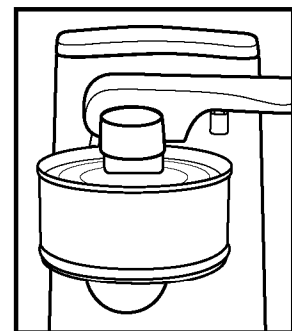

Figure 3
- 4 Push can opener lever down firmly and hold until the can lid is automatically pierced and the cutting action begins as shown in Figure 3. **NOTE:** It is not necessary to hold the can opener lever down during the cutting cycle.